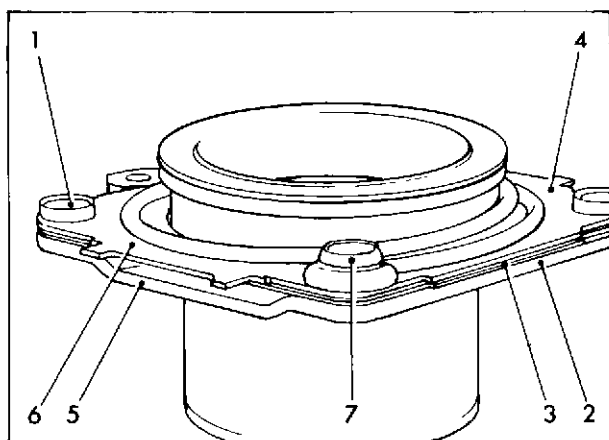

Fig. 14 Renewing switch moving contract
8. Remove the four rivets (1) fig. 14 holding the moving contact assembly together and this allows the contact (2) and insulator (3) to be removed from the latch plate (4).
9. When fitting the new moving contact, first assemble the insulator and moving contact to the latch plate, ensuring that the second stage contact (5) is adjacent to one of the two lips (6) on the latch plate as shown.
10. Reassemble with new rivets as illustrated in fig. 14, ensuring that the long insulating bush (7) is passed through the spring eye and is in the position shown.